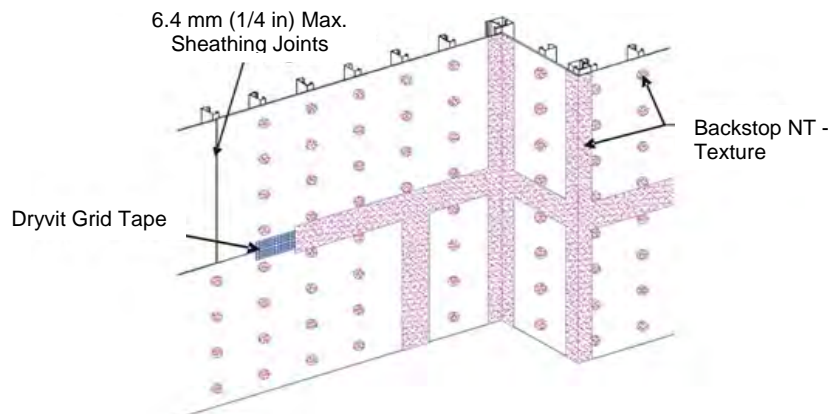

Figure 15
- 1) Apply Dryvit Grid Tape as described in Section VI.F.1 above. Mix the Backstop NT - Texture material as described in Section III.B.2. Using a stainless steel trowel or spatula, apply a layer of Backstop NT - Texture over the Dryvit Grid Tape and spot all fastener heads – Figure 15. **NOTE: Dryvit Grid Tape is not necessary over fastener heads.**